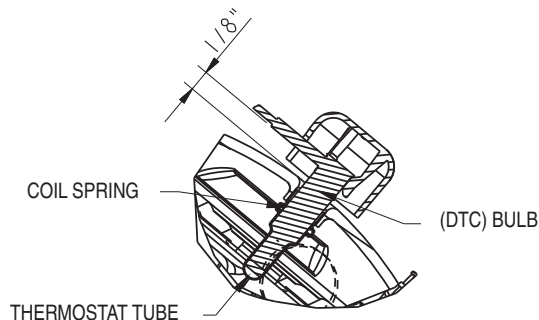

Figure 6. Bulb installation on top of the compressor
c. Spread a thin film of thermal grease around DTC bulb. Press DTC bulb into thermostat tube on top of the compressor until the bulb bottoms out in the thermostat tube. (Install by hand, do not use excessive force) Copper tube from the DTC bulb should be approximately [1/8"] off the top of the compressor. Take care and avoid damaging or scratching the bulb. Please see Figure 6.
d. Snap thermal cap onto DTC bulb on top of the compressor. If there is a need to remove the thermal cap due to height limitations, thermal insulation for the bulb is strongly recommended. Please see figure 6.